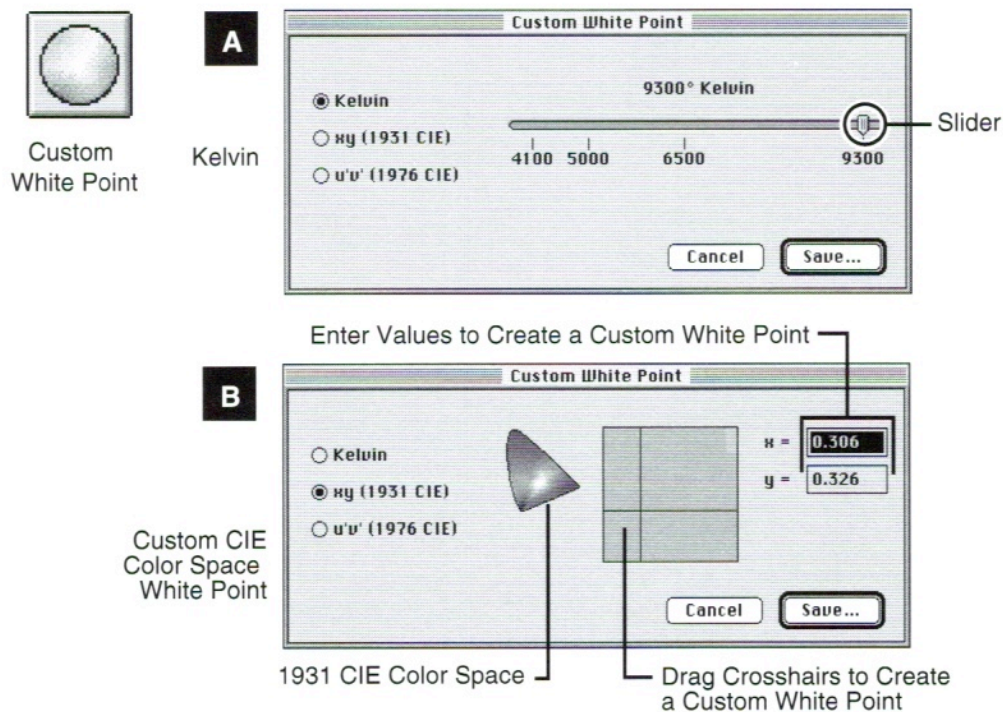

Figure 26. Color Button White Point Setting
3. Click Create Custom White Point button (see Figure 26).